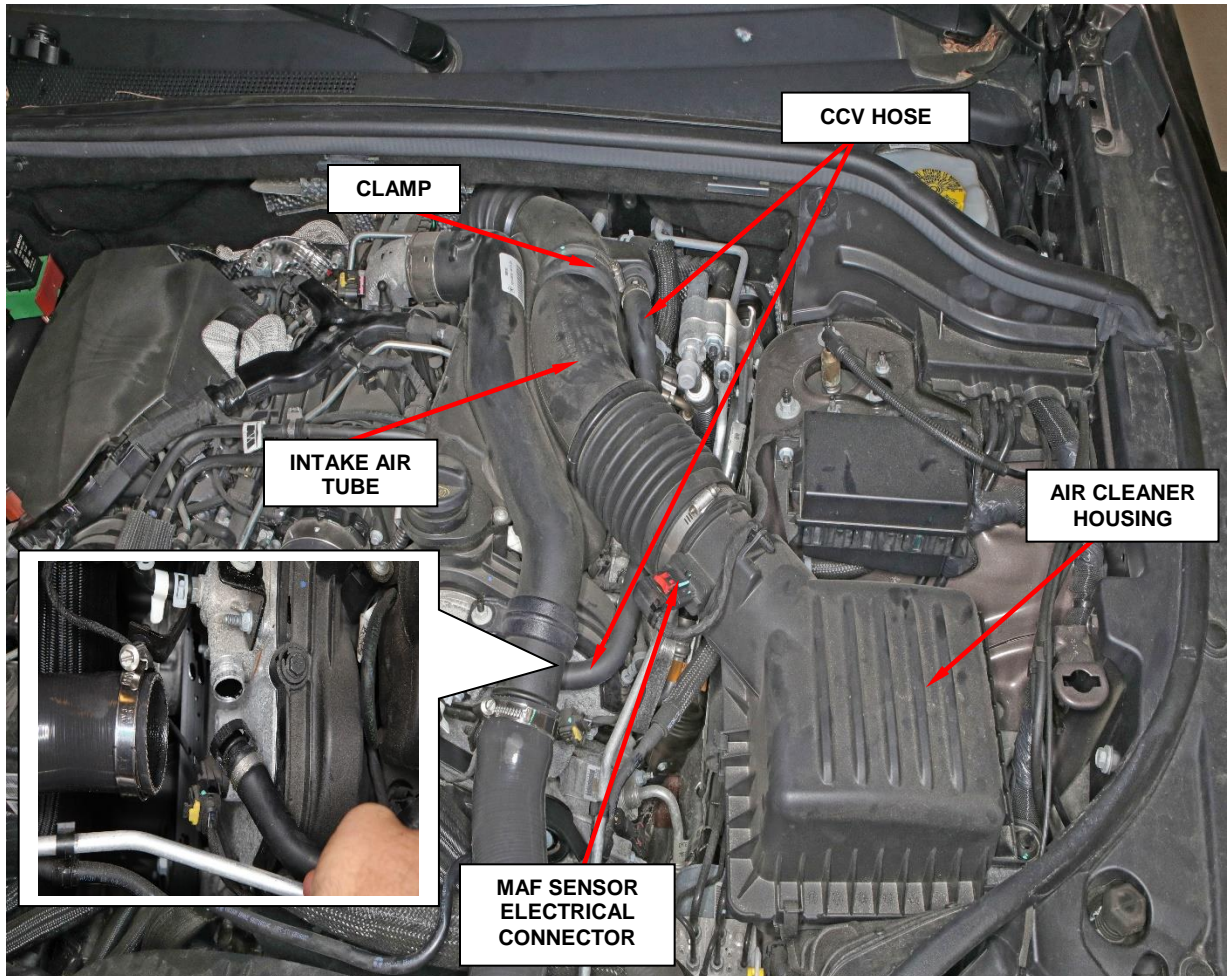

Figure 6 – Air Cleaner Housing
1. Disconnect the electrical connector from the Mass Air Flow (MAF) sensor (Figure 6).
2. Loosen clamp and disconnect the intake air tube from air cleaner housing (Figure 6).
3. Unclip the top of the Air Cleaner Housing and remove the top housing (Figure 6).
4. Loosen the air intake clamp at the turbocharger intake at the back of the engine and remove the turbocharger air intake tube (Figure 6).